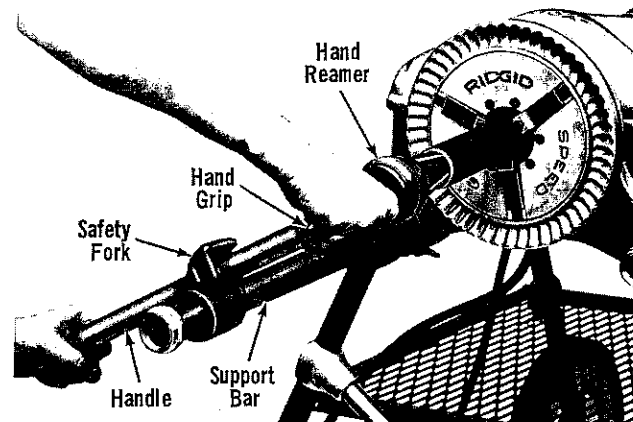

Figure 8. Reaming Pipe with Hand Reamer.
2. Insert Straight Flute Reamer into end of pipe and hold firmly onto Handle and Handgrip (Fig. 8).
3. Step on Foot Switch and push on Reamer Handgrip (Fig. 8) with right hand to ream pipe.